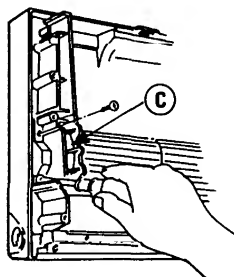

Fig. D-6
- 1) As shown in Figs. D-6 and D-7, loosen the screws of the plastic mounting plates (C) and (D) which secure the fan, using a Phillips screwdriver, then remove the fan and fan motor.